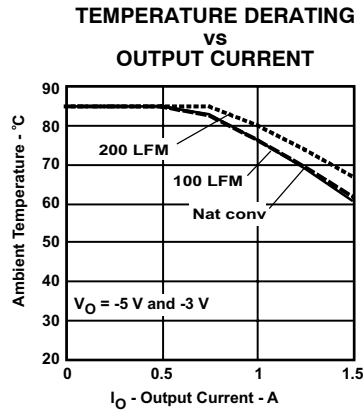
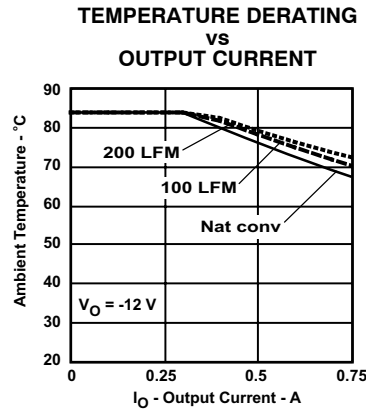
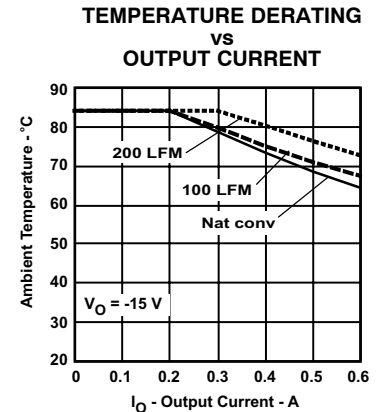

Figure 10.
Figure 11.
Figure 12.
- (2) The temperature derating curves represent the conditions at which internal components are at or below the manufacturer's maximum operating temperatures. Derating limits apply to modules soldered directly to a 100-mm x 100-mm, double-sided PCB with 2 oz. copper. For surface mount packages, multiple vias (plated through holes) are required to add thermal paths to the power pins. Please refer to the mechanical specification for more information. Applies to Figure 10, Figure 11, and Figure 12.
**TYPICAL CHARACTERISTICS (24-V INPUT) (1) (2)**